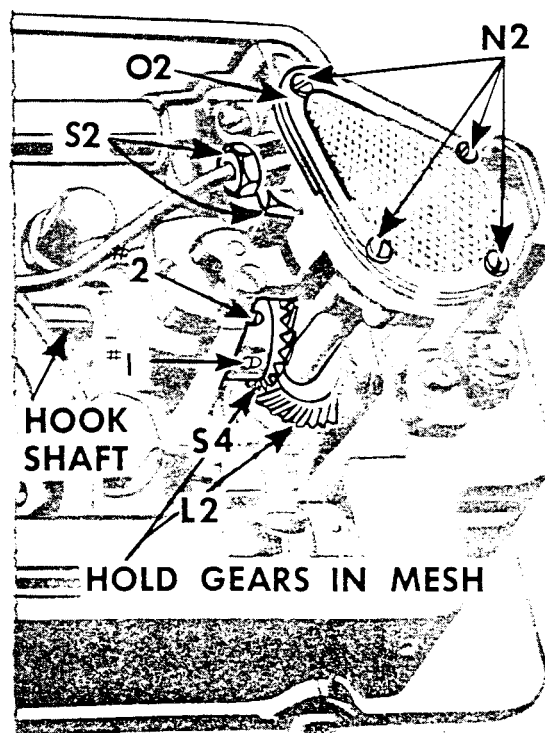

Fig. 48. Removing and Replacing Hook Shaft
2. Mark the two lower bevel gears L2 and S4, Fig. 48, with chalk or crayon, on one tooth of one gear and the corresponding space for that tooth in the other gear. **This is important**, as these gears may become separated during removal of shaft. These marks will then make it possible to obtain the original mating position of the gears.
3. Loosen the two set screws #1 and #2 in hook shaft bevel gear. **While holding the two gears L2 and S4 in mesh**, as instructed in Fig. 48, withdraw the old hook shaft and **INSERT THE NEW SHAFT**.
5. Make certain that set screw #1 seats over flat on the hook shaft. Remove all end shake from hook shaft, by pushing hook firmly against front hook shaft bushing and, at the same time, pushing gear S4, Fig. 48 toward the hook on the shaft. Securely tighten first set screw #1, then securely tighten the second screw #2.
2. Remove the four screws **N2**, **Fig. 48**.
3. Remove the screen frame, screen and oil pump cover **O2**, **Fig. 48**.
5. Replace pump cover, screen and frame **O2** and four screws **N2**, **Fig. 48**. Securely tighten screws **N2**.
2. Follow the instructions in **Steps 2 and 3** for removal of hook shaft on **page 30** except that, instead of removing hook shaft, merely remove hook shaft bevel gear **S4**, **Fig. 48**.
1. Before installing upright arm shaft, make certain it has the bevel gear **L2**, **Fig. 48** correctly fastened at the **lower** end of shaft.